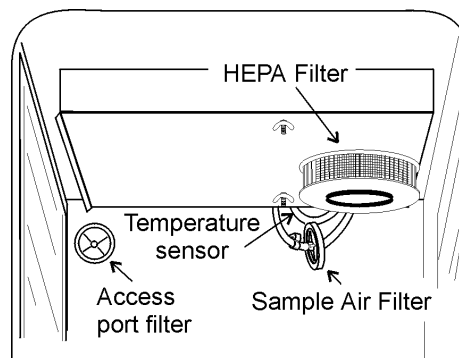

Figure 1-9
Locate the opening in the top left corner on the inside of the chamber. Remove the tape covering the opening on the outside of the unit. Locate the stopper with filter in the hardware bag. Install the assembly in the opening inside the chamber. See Figure 1-9.
3. Install the filter as shown in Figure 1-9. Refer to Section 5.6 for HEPA filter maintenance.